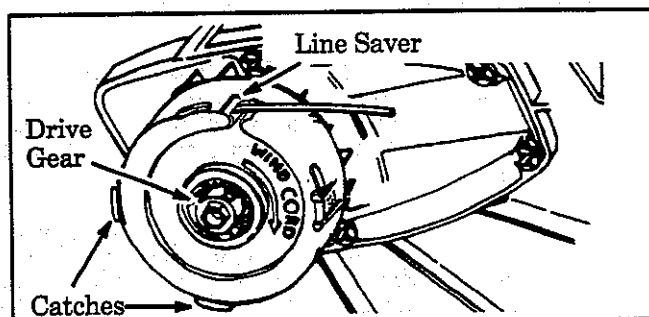

Figure 17
- Insert 3" to 4" of the end of the line (on spool) through the line saver in the hub. Figure 17.